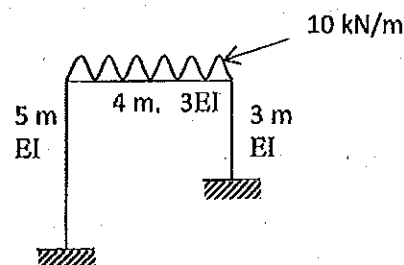

Fig. 15.a.
- b) Draw the bending moment diagram for the continuous beam shown in Fig. 15.b. by moment distribution method.
15. a) Analyse the frame shown in Fig. 15.a by moment distribution method.